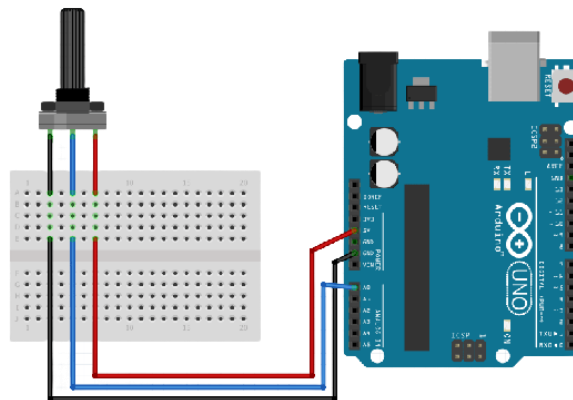

Figure 02: Circuit diagram
4. Create the circuit as figure 02.